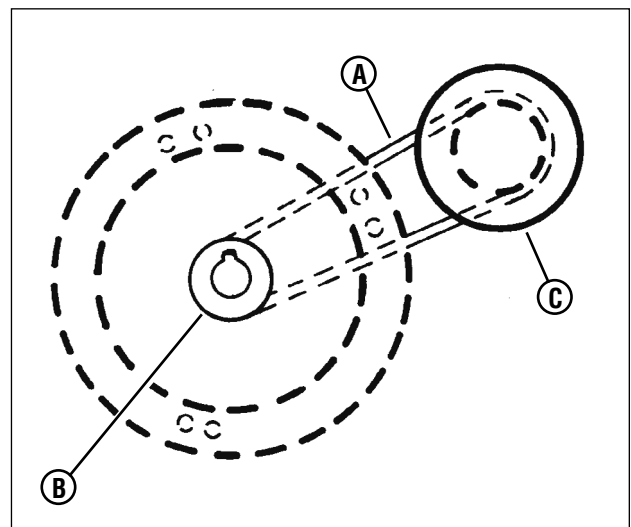

Figure 32: Engine drive belt routing
On self-propelled mowers, the engine belt (A, Figure 32) transmits power from the engine pulley (B) to the drive disc (C). The drive disc powers the poly-v belt, which engages the transmission that powers the rear wheels. Should these belts become worn, they could cause slippage, which would impair mower performance. The condition of the engine belt and poly-v belt should be checked after every 25 hours of mower operation.
2. Note the belt routing (Figure 32). There is no idler pulley on these models to disconnect.